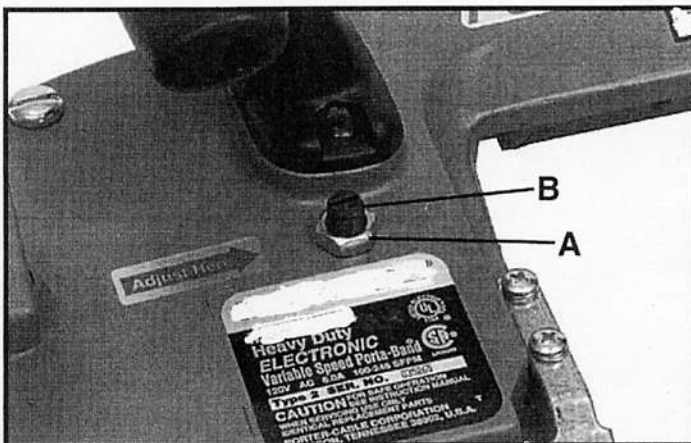

Fig. 5
2. Use a  $\frac{9}{16}$ " wrench to loosen the adjustment locking nut (A) Fig. 5, by turning it counterclockwise, one or two turns.
3. Use a flat screwdriver to turn the tracking screw (B) Fig. 5,  $\frac{1}{4}$  turn. Turning the screw clockwise will move the blade further up, toward the blade guide rollers. Turning the screw counterclockwise will move the blade down, away from the blade guide rollers.